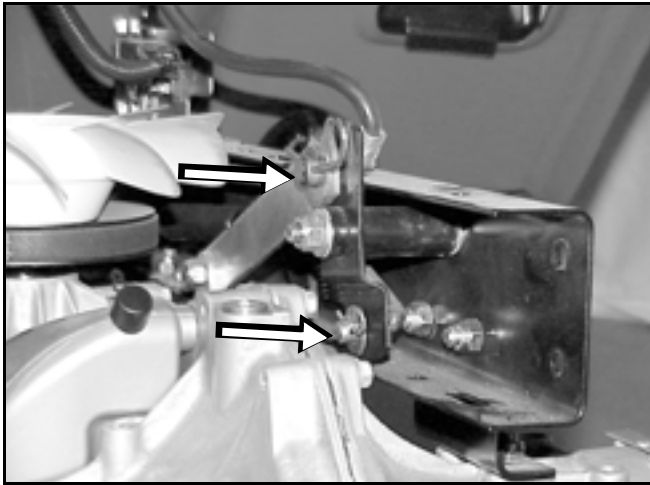

Figure 131
3. Reconnect the speed control link and the speed control rod with washers and hairpins (Figure 131).